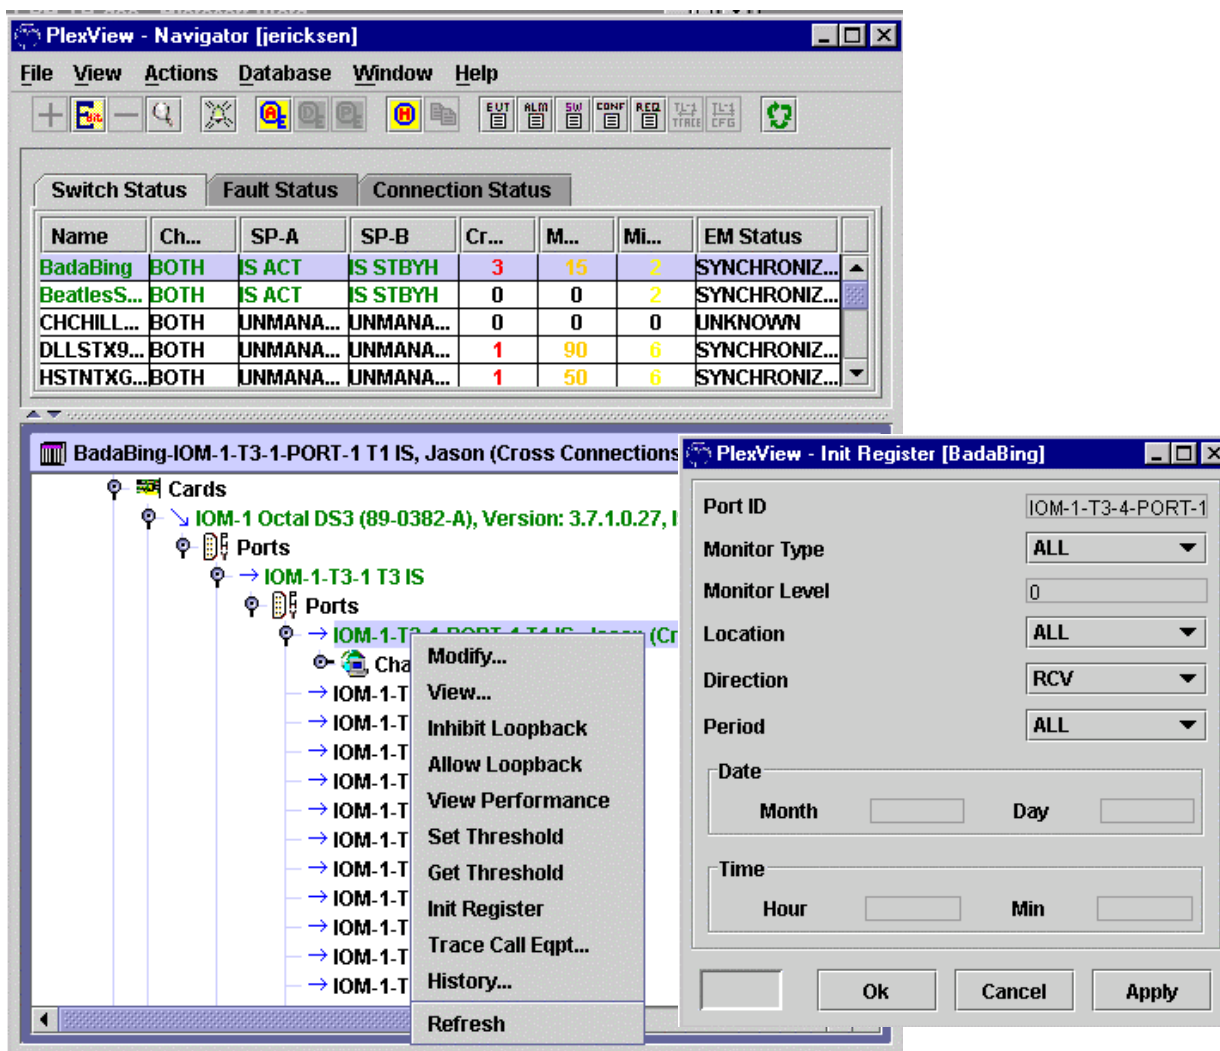

Figure 3. Modify T1 PM Thresholds
8. Initialize one or more storage registers or event counters associated with specific T1 ports in the Plexus 9000. Double-click *Switch*, *Switch name*, *Cards*, desired *IOM*, *Ports*, desired port, and *Ports*. Right-click desired port, select *Init Register*. Make required changes and then click *Ok* or *Apply*. See Figure 3. Reference **DLP-537** for detailed information for the command.